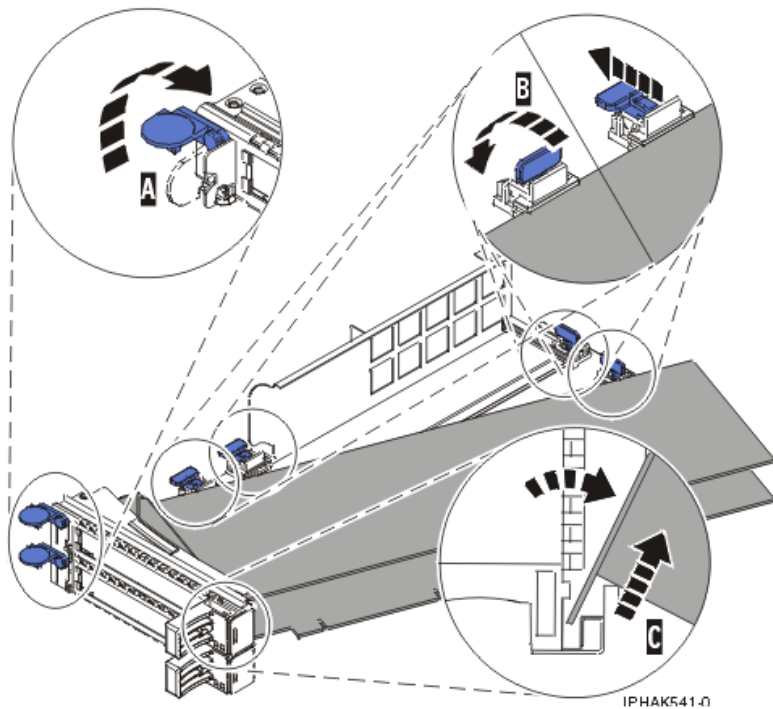
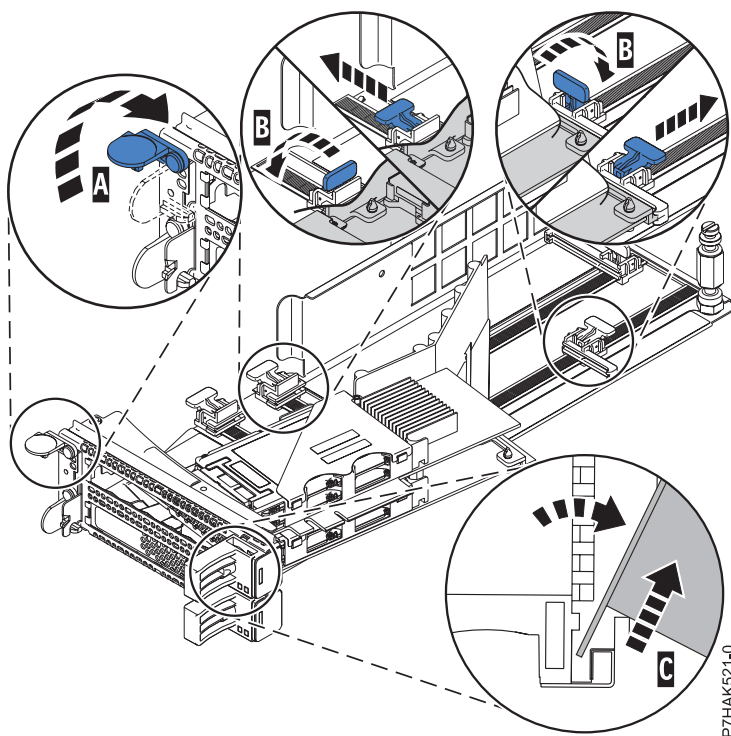

Figure 46. Adapter removed from the PCI adapter cassette
Figure 47. PCIe RAID and SSD SAS adapter removed from the PCI adapter cassette
- d. Unscrew pivot pin (C) and put it in a safe place
- a. Unlock the adapter retainers (B) by rotating the retainer clips (A) into the horizontal position. See Figure 46 on page 63. If you are removing a PCIe RAID and SSD SAS adapter, see Figure 47 on page 63.